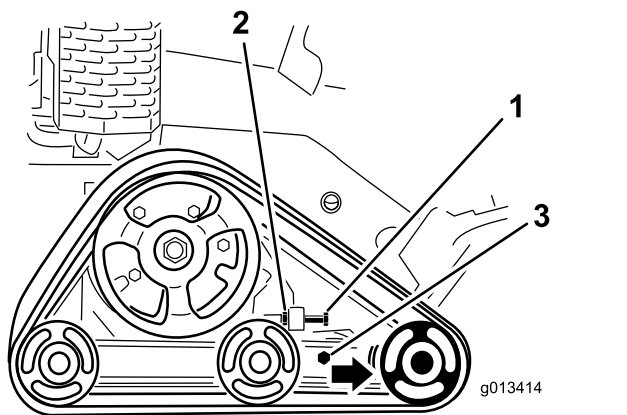

Figure 43
3. Loosen the jam nut on the track tensioning bolt and the clamp bolts on the tension arm (**Figure 43**).
4. Torque the tensioning bolt to 32.5 to 40 N·m (24 to 30 ft·lb) to tighten the track (**Figure 43**).
4. Back out the tensioning bolt and jam nut (**Figure 43**).
5. Loosen the clamp bolts (**Figure 43**).